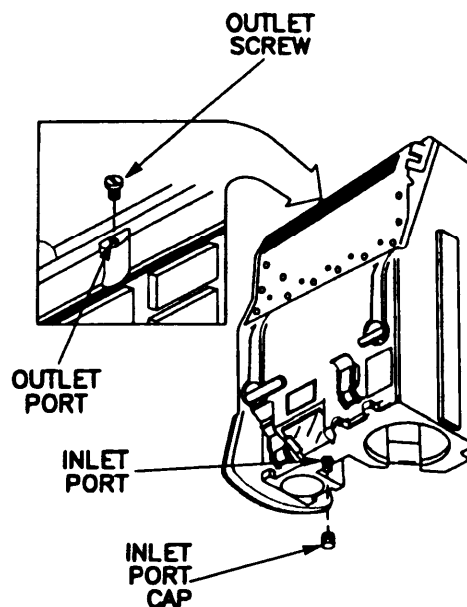

Figure 3-20 M32E1 Head Assembly
- (1) Perform purging and charging procedure para 2-5.b.
- (2) Purge instrument at 5 psig for 10 minutes.
- (3) Charge instrument at 1 psig maintaining pressure for 20 seconds.
- (4) Leak test for minimum of 5 minutes.
c. Periscope, M32E1 Tank (figs. 3-20 through 3-22).
- (1) Head Assembly (fig. 3-20).
- d. Periscope, M32CE1 Tank (figs. 3-20 through 3-22).** Refer to para 3-10.c. for procedures.
- e. Periscope, M35E1 Tank (figs. 3-20 through 3-22).** Refer to para 3-10.c. for procedures.